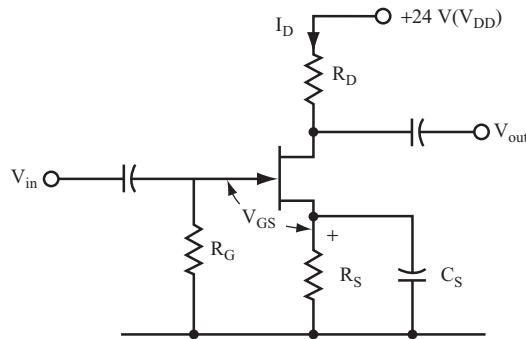

FIGURE 8.33
- 42** Figure 8.33 shows a JFET amplifier circuit that uses one power supply, rather than separate power supplies for the drain and gate used in the amplifier discussed in problems 34–41.